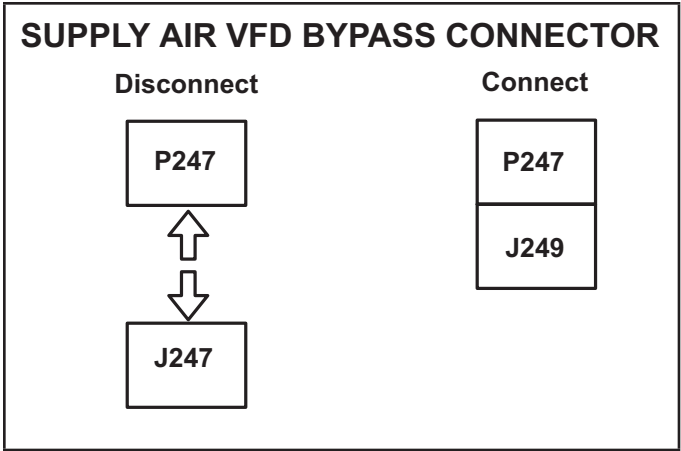

FIGURE 43
- 2 - Locate J/P247 and J/P248 connectors near the VFD. See figures 43 and 44.
- 3 - Disconnect P247 from J247 and connect J249 to P247. See FIGURE 43.